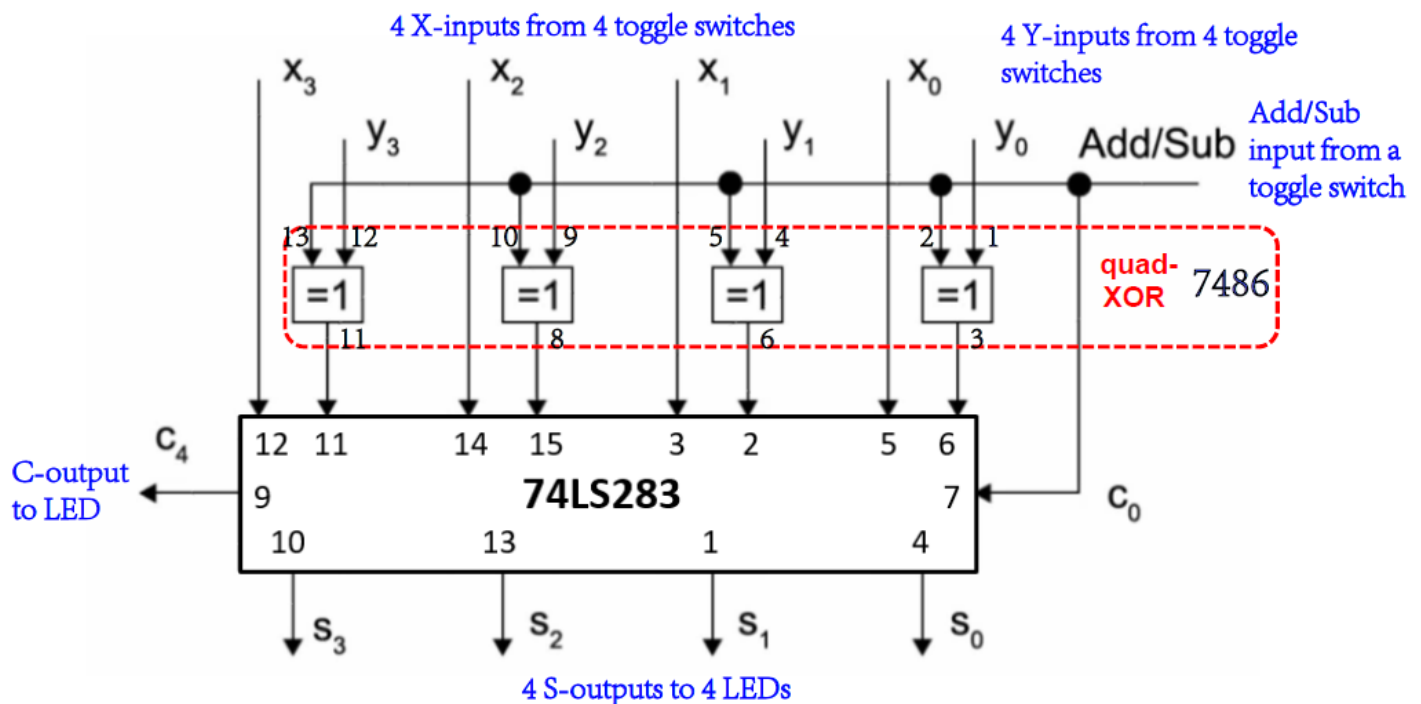

Figure 4: 4-bit adder/subtractor circuit
- 5.2.1 Modify the circuit you have built in section 5.1 such that it can perform 2's complement addition ($X+Y$) and subtraction ($X-Y$), as shown in Figure 4. For your convenience, the pin numbers on the 74LS283 device are provided. The suggested pin numbers for the quad-XOR gates are also included for your convenience.
- 5.2.3 Connect the circuit using the information from Figure 4. Take care to connect it correctly, otherwise you will need to spend far more time on figuring out why it does not work.